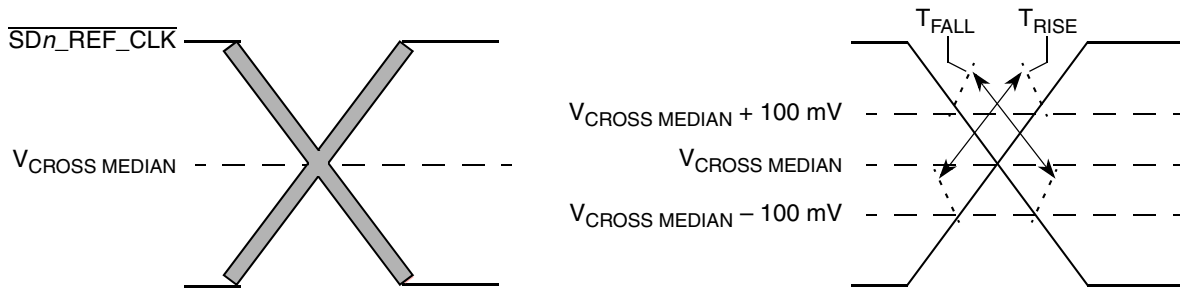

Figure 38. Single-Ended Measurement Points for Rise and Fall Time Matching
6. Matching applies to rising edge for SD\_REF\_CLK $\bar{n}$  and falling edge rate for  $\overline{\text{SD\_REF\_CLK}}_n$ . It is measured using a 200 mV window centered on the median cross point where SD\_REF\_CLK $\bar{n}$  rising meets  $\overline{\text{SD\_REF\_CLK}}_n$  falling. The median cross point is used to calculate the voltage thresholds that the oscilloscope uses for the edge rate calculations. The rise edge rate of SD\_REF\_CLK $\bar{n}$  must be compared to the fall edge rate of  $\overline{\text{SD\_REF\_CLK}}_n$ , the maximum allowed difference should not exceed 20% of the slowest edge rate. See Figure 38.